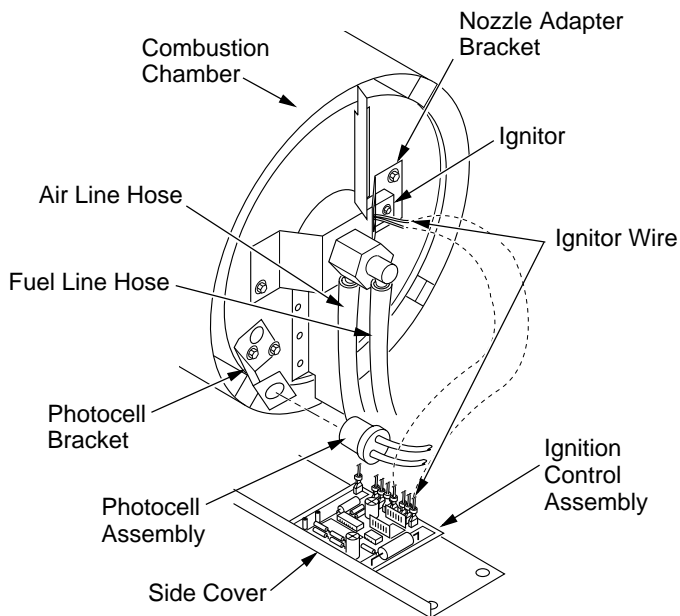

Figure 19 - Disconnecting Ignitor Wires from Ignition Control Assembly (40/55/60/70/110/115/155/165 Models Shown)
4. Disconnect ignitor wires from ignition control assembly (see Figure 19). Pull the ignitor wires up through the hole in the lower shell.
5. Disconnect fuel line hose and air line hose. Remove photocell from photocell bracket (see Figure 19).
11. Route the ignitor wires back down through the hole in the lower shell. Connect wires to the ignition control assembly (see Figure 19).